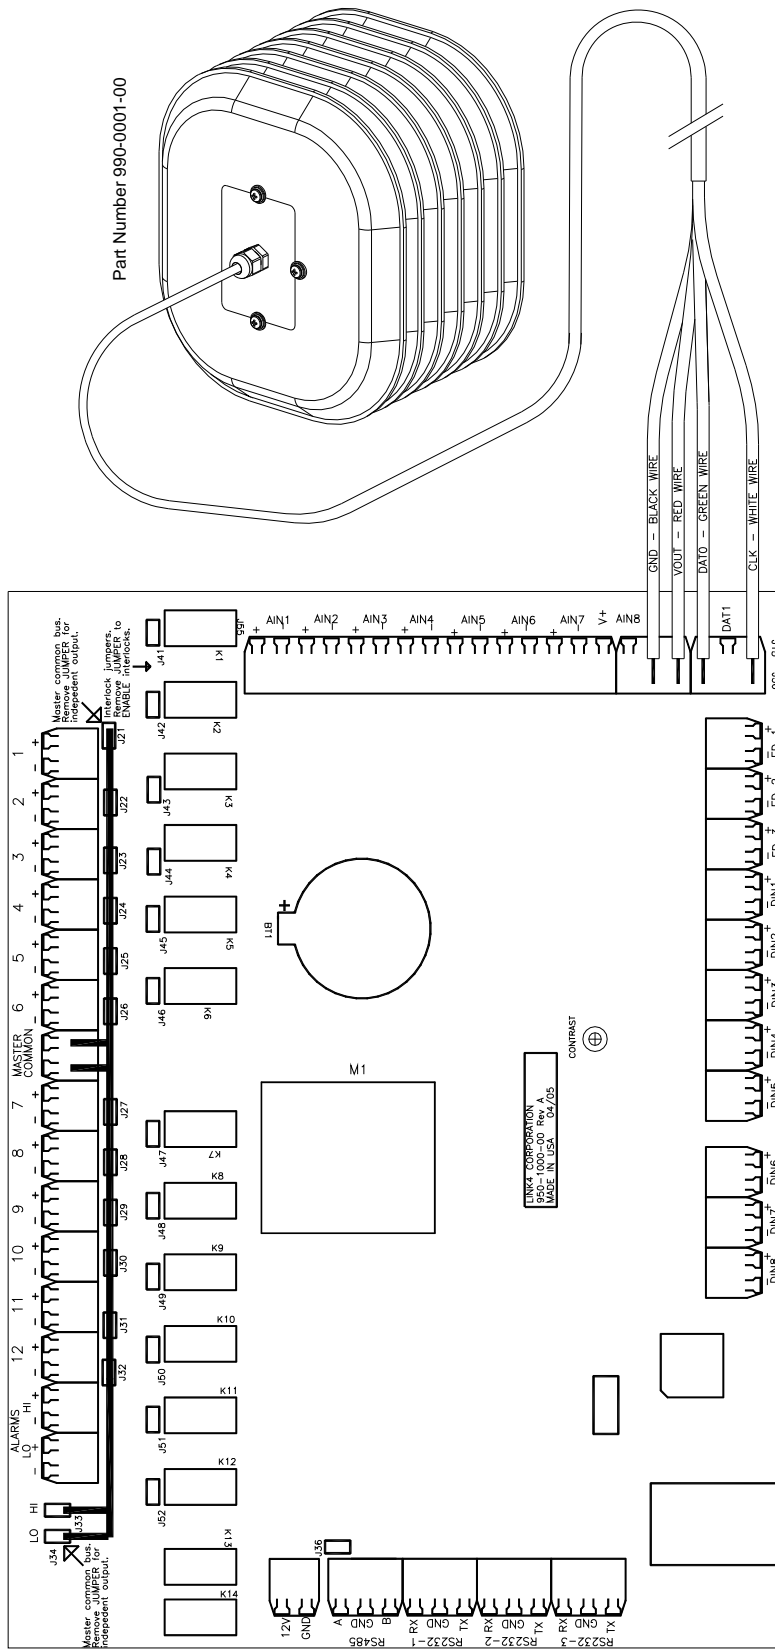

Figure 4.13 Wiring Indoor Temp/Humidity Sensor
6. Connect the wires as shown in Figure 4.13.